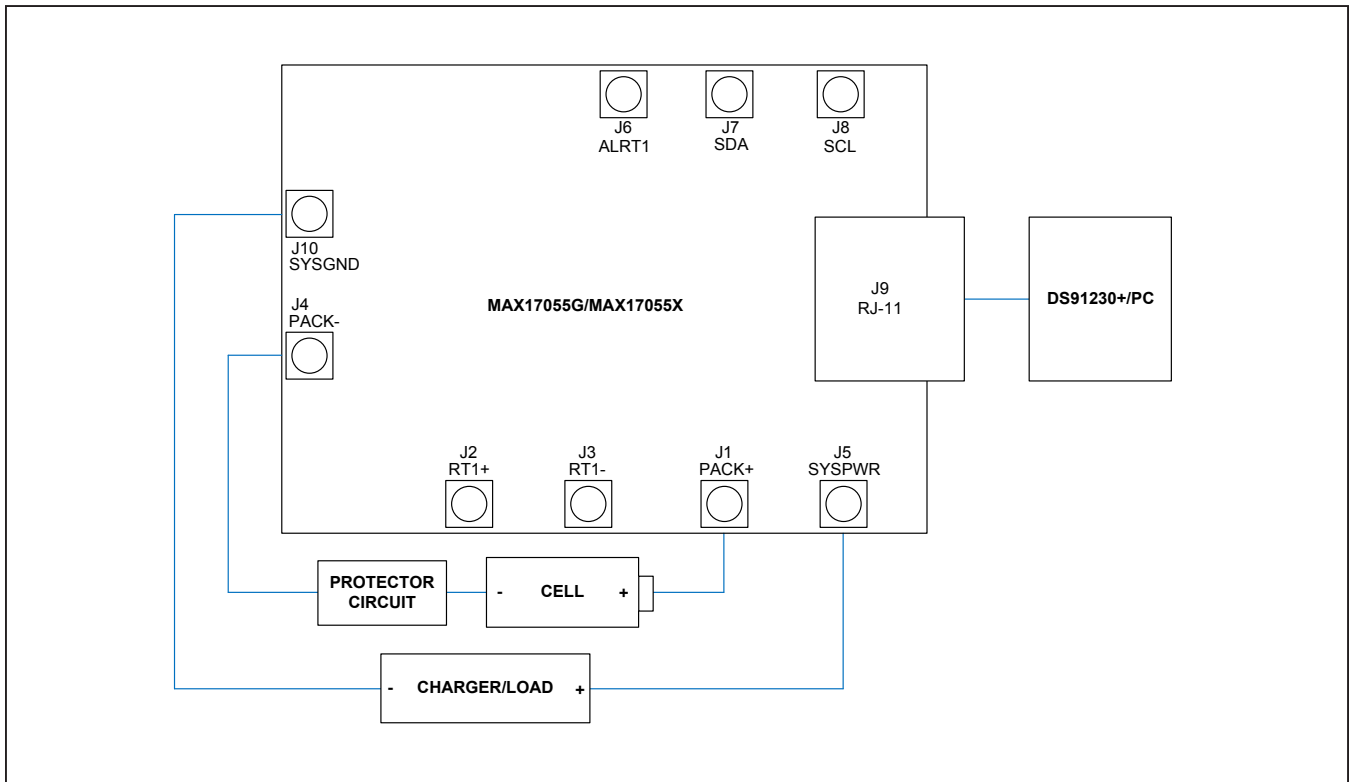

Figure 1. MAX17055 Board Connections
- 5) Make connections to the EV kit board based on cell pack configuration as shown in Figure 1. The load or charger circuit can be connected at this time as well. The cell connects between the PACK- and PACK+ pads and the charger/load connect between the SYSGND- and SYSPWR+ pads.